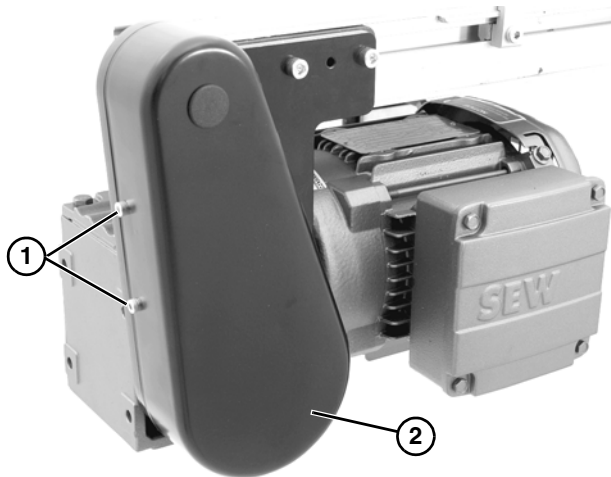

Figure 17
1. Remove four (4) screws (**Figure 17, item 1**) and remove cover (**Figure 17, item 2**).
4. Install cover (**Figure 17, item 2**) with four (4) screws (**Figure 17, item 1**). Tighten to 35 in-lb (4 N-m).